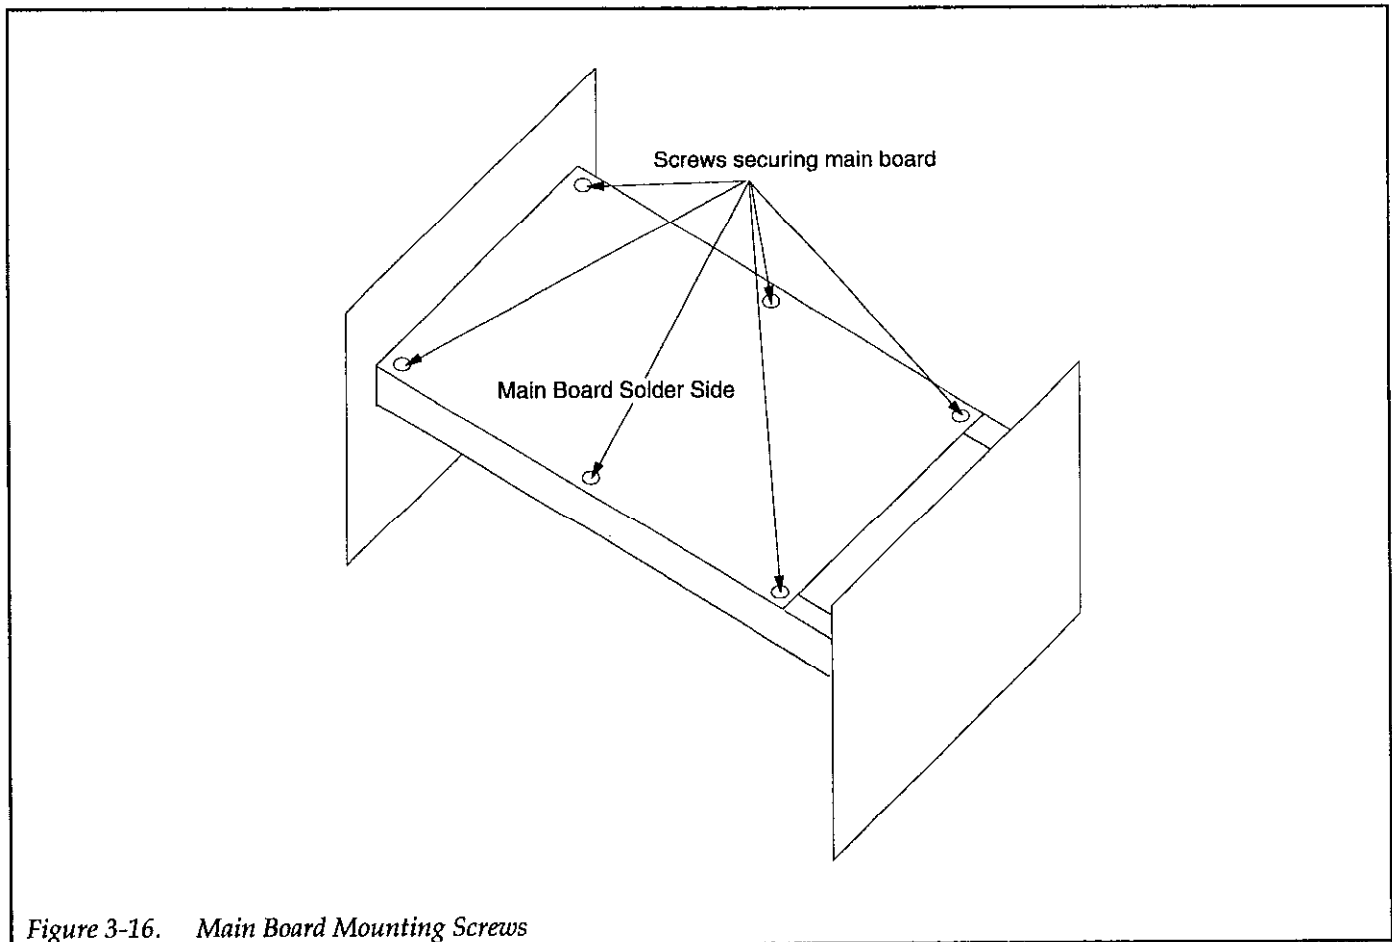

Figure 3-16. Main Board Mounting Screws
5. Remove the six screws securing the main board (see Figure 3-16).